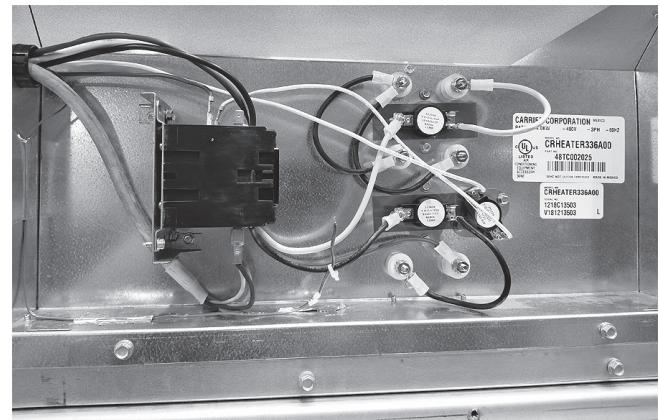

Fig. 22 — Heater Wiring
8. Run conduit through (rigid or EMT) the conduit drip boot in the rain shield bracket to the single point box. Provide an appropriate fitting to connect the conduit to the single point box wall and ground appropriately. (See Fig. 22.) Drip boot eliminates the need for watertight conduit fittings at the single point box.